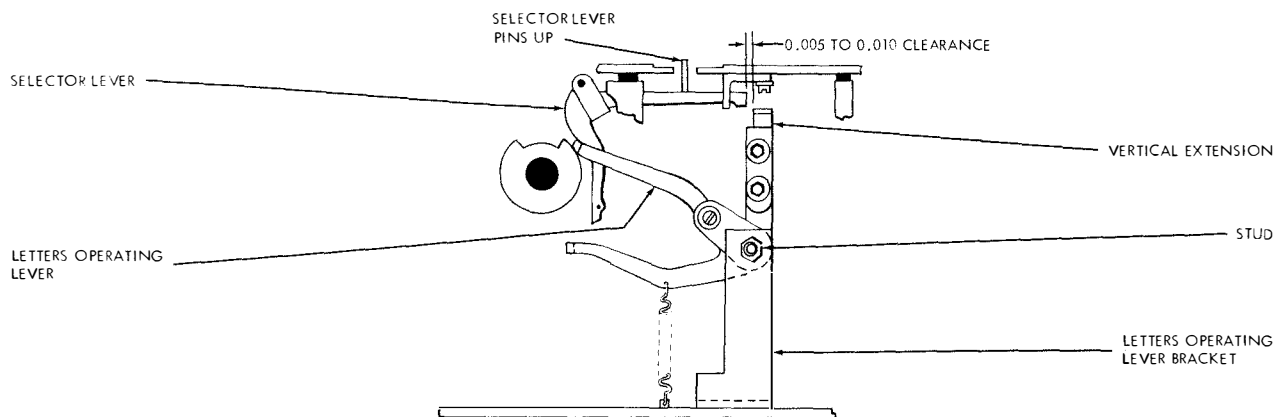

Figure 7-103. Letters Operating Lever
(42) LETTERS OPERATING LEVER. (See figure 7-103.)—With the letters operating lever riding on the high part of its cam, rotate the cam sleeve until the bottom edges of the ends of the horizontal members of the selector levers are in line with the top edge of the horizontal section of the letters operating lever vertical extension. Under this condition, there should be from 0.005-inch to 0.010-inch clearance between the ends of the selector lever, providing the minimum clearance and the operating lever vertical extension. To adjust, loosen the letters operating lever stud nut and position the stud in the bracket; tighten the nut.